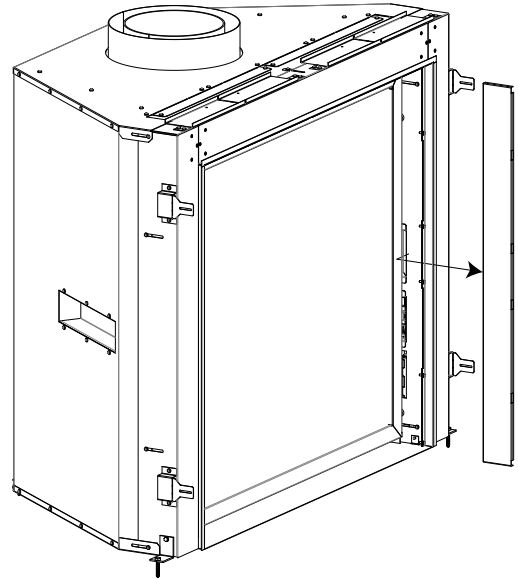

Figure 18: Side Panel Removal
3. A side cover can be found on the inner right side of the unit. It is held in place using two magnets. Gently pull the side panel out and away from the unit (see Figure 18).
- Pressure taps for the inlet (IN) and the manifold (OUT) \*see page 48\*